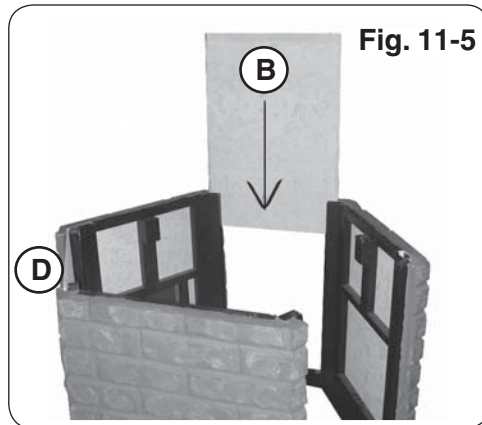

Fig. 11-5
4. Slide the two sand finished panels (B & D) as shown in Fig. 11-5.